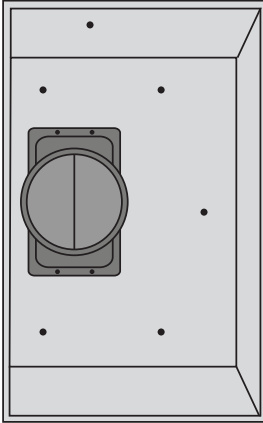

Figure 8
- For additional support, use pre-drilled holes and mounting screws to attach side and top of the range hood (see Figure 8 and 9).